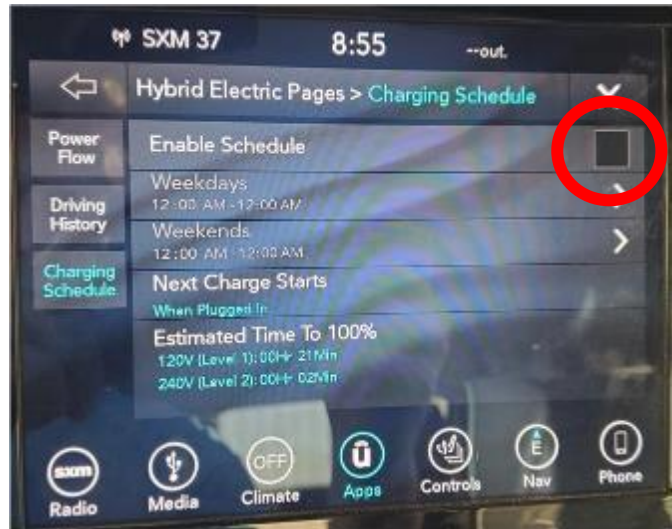

Figure 3 – Enable Schedule Screen
31. Verify the “Check Mark” is **NOT** selected in the “Enable Schedule” box (Figure 3).